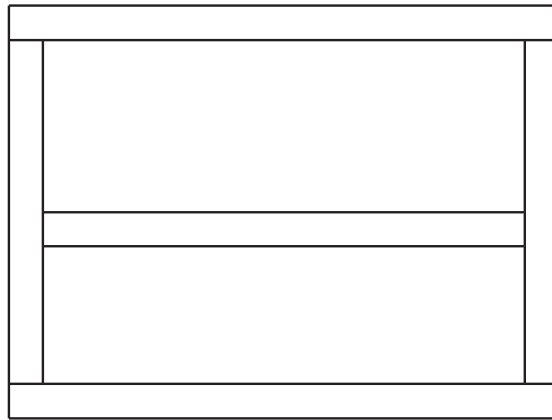

Fig. 4-4
1. Create a new drawing file named **prb4-1.dwg** and store it in the folder named after yourself. Create the bookcase shown in Fig. 4-4. For practice, enter the **LINE** command in various ways: using dynamic input, using the **Command** line, or picking a button. Use the various shortcut methods. Save the drawing.